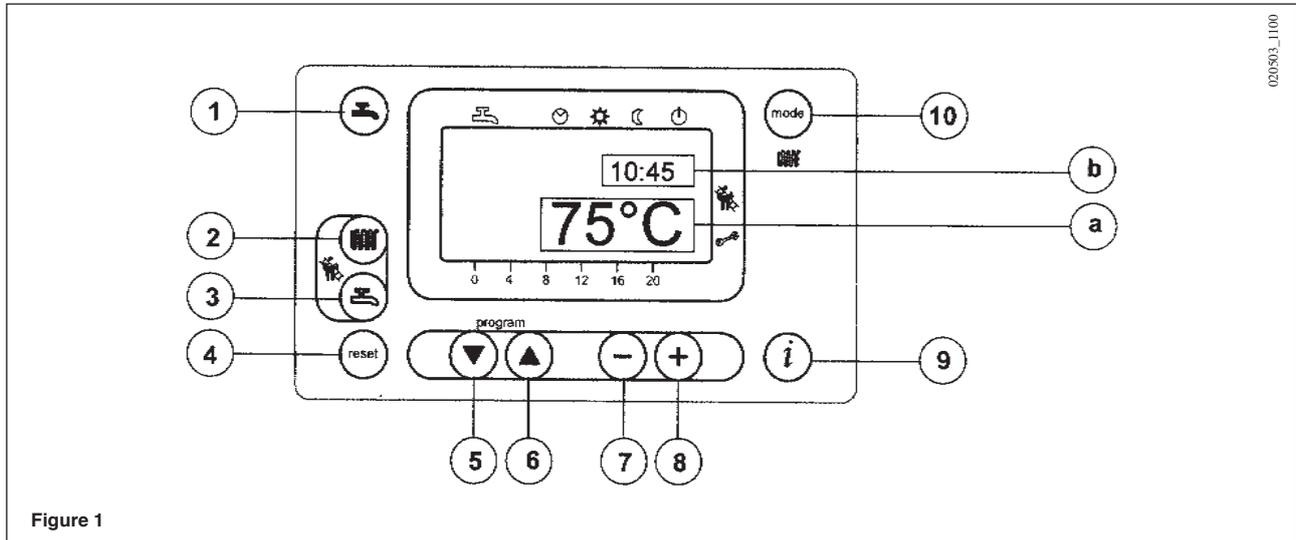

Figure 1
- Press the  key (2-figure 1) to set the central heating water temperature;
- Press either of the   keys (1 or 10 - figure 1) to save and return to the main menu.
N.B – With the outdoor sensor connected, the  key (2 - figure 1) can be used to shift the central heating curve.
- Press the  key (3-figure 1) to set the maximum domestic hot water temperature;
The fault warnings appear on the main display (figure 1 a) together with the  symbol (Figure 4).
Fault warnings appear on the secondary display (figure 1 b) alternating with the time, both of them flashing (figure 4.1). It is not possible to reset malfunction warnings which appear on the secondary display as the cause of the alarm has first to be removed.